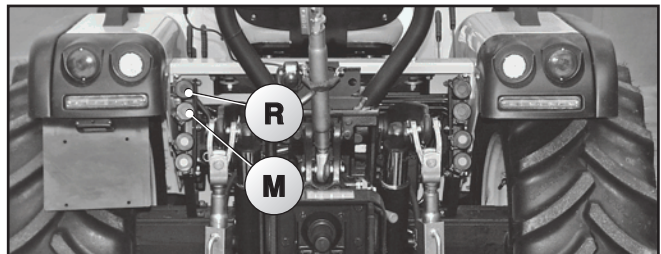

Fig. 5.87
The hydraulic coupling (M) feeds the continuous delivery, while the coupling (R) is a free return (Fig. 5.87/88).